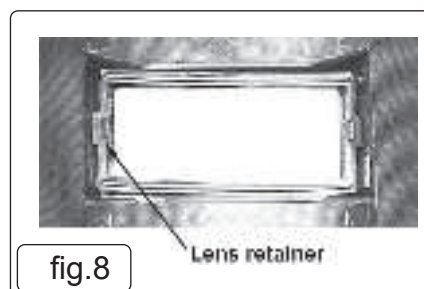

fig.8
6.1.2. Locate thumb or forefinger under the lens retainer clip (fig 8) and gently pull inwards and outwards and remove the lens retainer and place in a secure position.
6.1.6. Locate thumb or forefinger under the lens retainer clip (fig 8) and gently pull inwards and outwards and remove the lens retainer and place in a secure position.